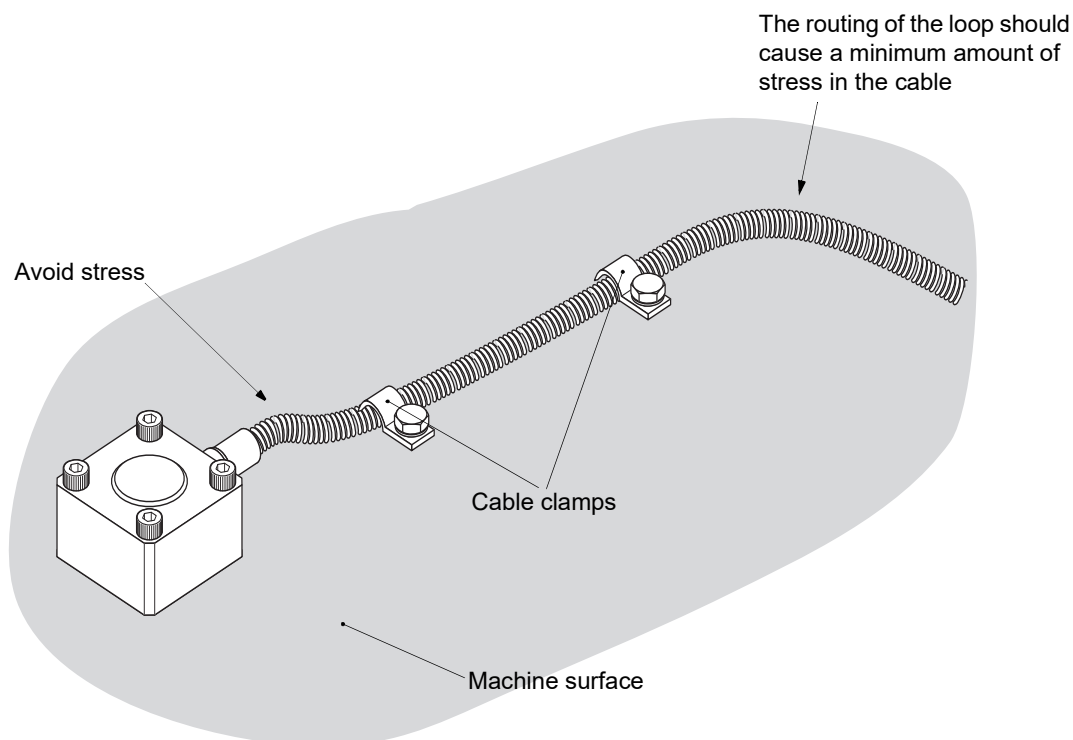

Figure 3-1: Installing a soft-line cable
- 1- As shown in Figure 3-1, ensure that the cable is straight to the first cable clamp at 2 to 3 cm from the piezoelectric-based sensor.